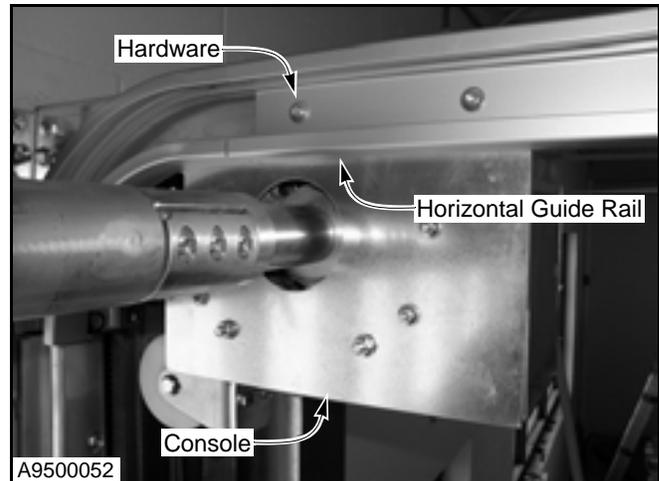

Figure 48
2. Insert the horizontal guide rail into the console. Install the hardware and secure the rail to the console. (See Figure 48.)